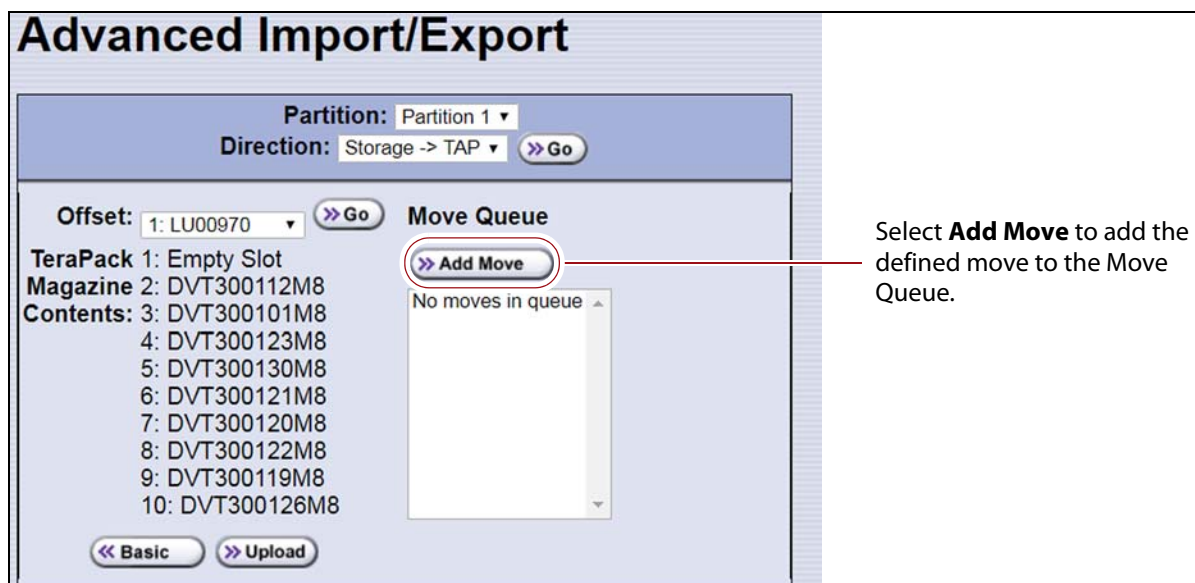

Figure 115 Add the move to the Move Queue.
- c. On the Advanced Import/Export screen (see Figure 115 on page 218), click **Upload**. The Upload Media Exchange Move List screen displays.